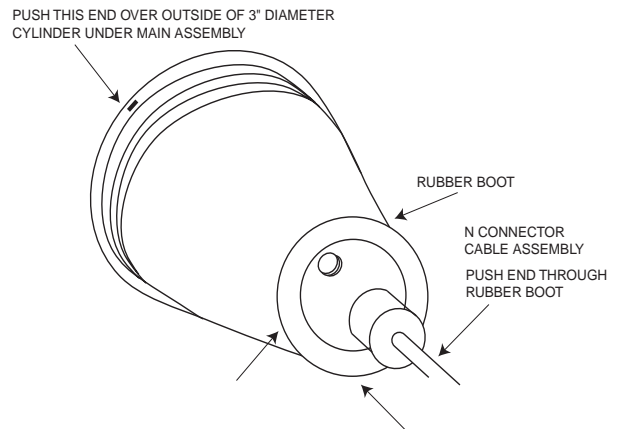

Figure 10d:
- a) **Push the N connector cable assembly through the rubber boot** in the direction shown in Figure 10d.